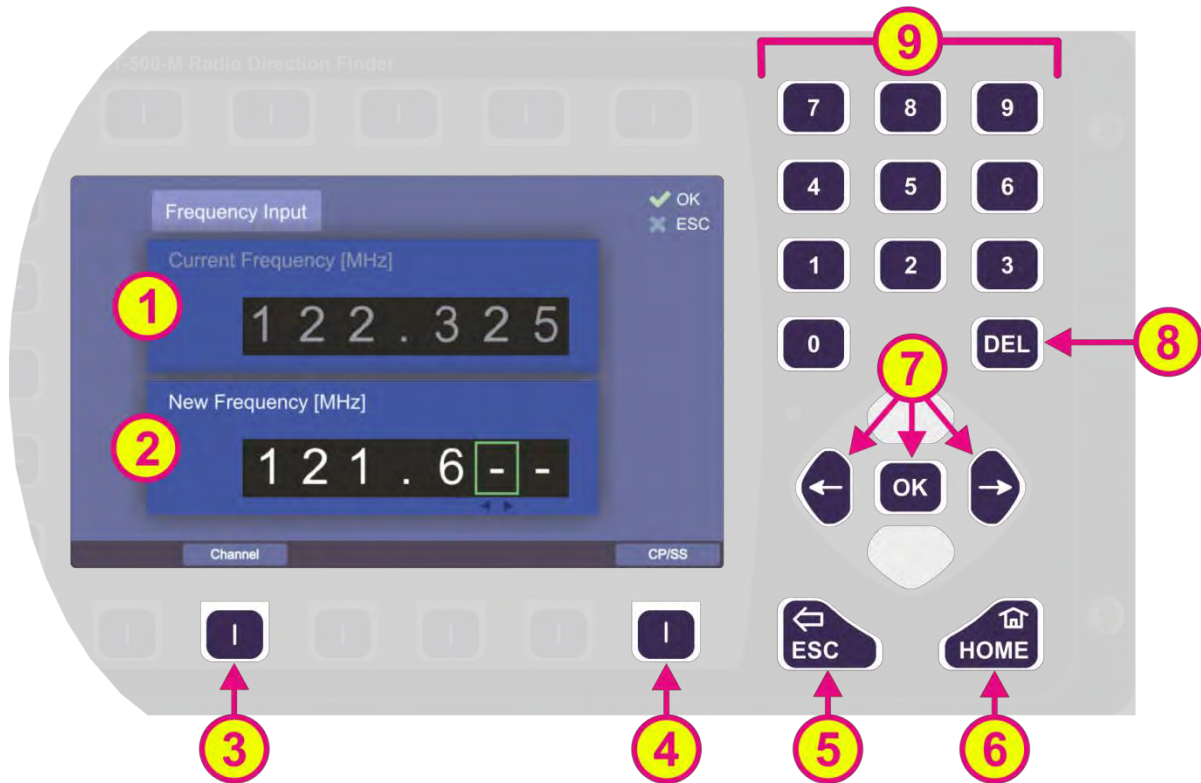

Figure 13. Input of a new frequency
Section “Current frequency [MHz]” shows the presently activated frequency (s. Figure 13, field 1).
Section “New Frequency [MHz]” allows the input of a new value (s. Figure 13, field 2).
The input of digits is done with the numerical buttons on the front of the device (s. Figure 13, field 9).
- Pressing the “left” arrow deletes the currently marked digit and marks the next higher digit left of the deleted one. The “right” arrow returns to the previous digit position (s. Figure 13, position 7).
- The “DEL” button (s. Figure 13, position 8) deletes the whole input. The input field shows “---.---”.
- Pressing the “OK” button (s. Figure 13, position 7) adopts the new frequency value and closes the dialog. This is not possible until the input is complete from the first to the last digit.
- Pressing the “ESC” button (s. Figure 13, position 5) closes the dialog without changing the current frequency.
- If channel input is not completed, the frequency input dialog will show only the current frequency under the “Current Frequency [MHz]” field (s. Figure 13, field 1).
The hotkey “CP/SS” (s. Figure 13, position 4) opens a drop-down menu with selectable Cospas Sarsat frequency groups. The currently active frequency group is highlighted in green, whereas the other groups are gray. By pressing the “up” and “down” arrows, a colored frame moves and highlights the frequency group, which can then be selected by pressing “OK”. Pressing “ESC” will close the dialog without adopting the new frequency.